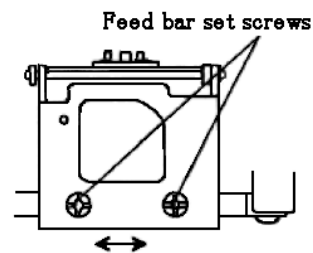

Fig.6
2. Loosen the feed bar set screws, position the feed dog at the center between right and left.(Fig. 6)